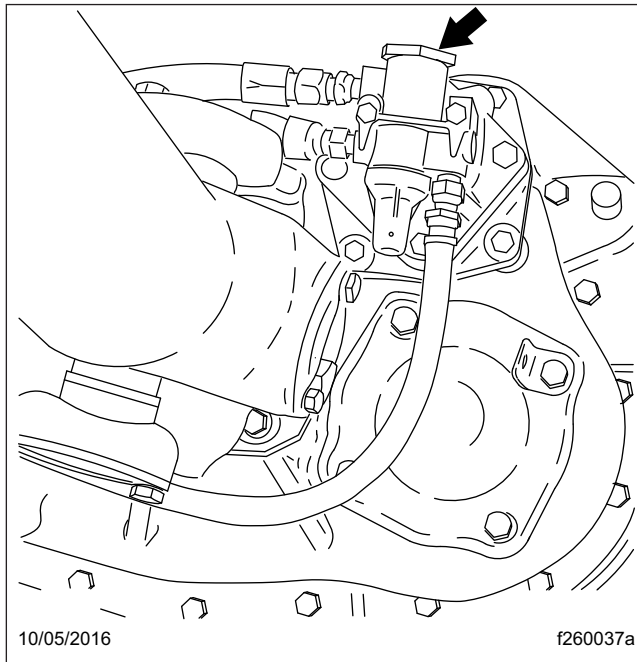

Fig. 3, Air Filter/Regulator (Eaton Fuller transmission shown)
2. Clean the outside of the air filter/regulator with cleaning solvent. See Fig. 3.